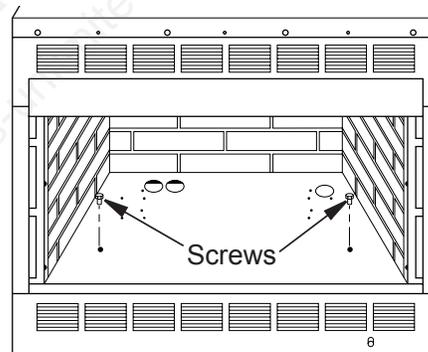

Figure 9 - Removing Screws from Firebox Bottom
- a. Remove the 2 screws that secure the bottom of the firebox (see Figure 9,).
2. Lift and remove firebox bottom (see Figure 9, page 9).